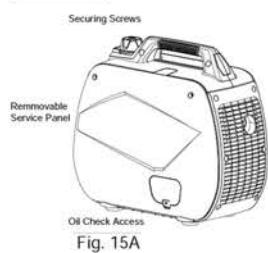

Fig. 15A
1. Loosen the cover screws and remove the maintenance cover. (Fig.15A)